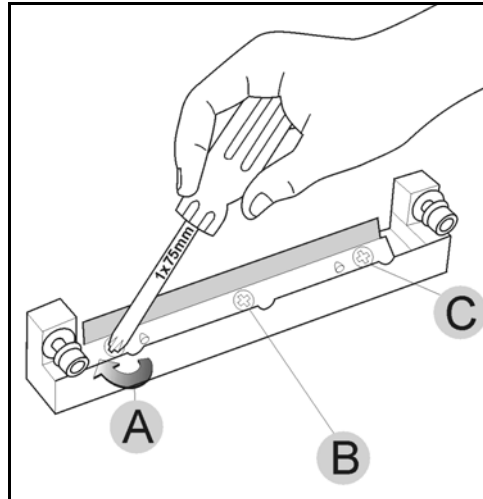

Figure 7-40: Tightening the roller scraper screws
- Tighten the screws in the order shown in Figure 7-40.